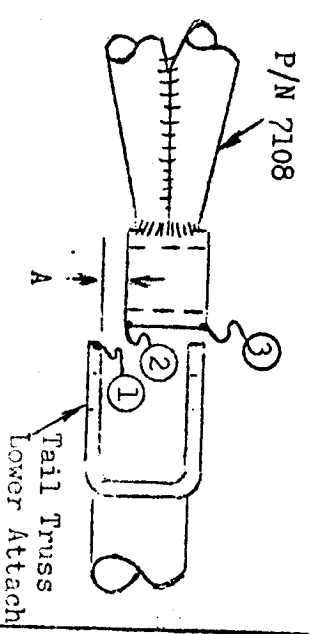
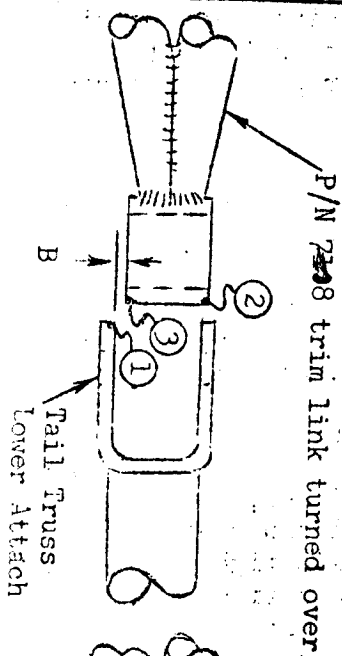
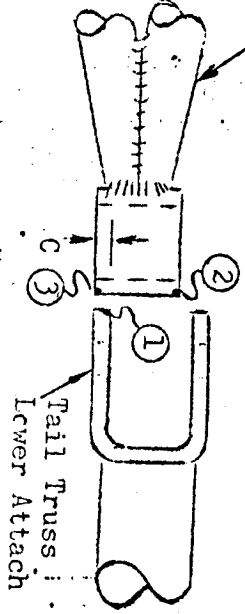

Figure 2
Figure 3
Figure 4
6. Due to the fact that P/N 3471 brackets are much stiffer than P/N 3009 brackets, the following must be accomplished. This must be done only after Item 5 has been completed. Before attaching tail truss at bottom point, measure and record misalignment between truss fitting and P/N 7108 trim link. This first measurement between Point 1 and Point 2 is referred to as Dimension A (See Figure 2). The maximum allowable misalignment is 1/32 of an inch. If the misalignment (Dimension A) is more than 1/32 of an inch, DO NOT attempt to mate parts at lower attachment, but do the following: Turn P/N 7108 trim link over at its point of attachment to P/N 7107 and again measure and record misalignment. This second measurement between Point 1 and Point 3 is referred to as Dimension B or C depending on the relationship between parts (See Figures 3 and 4). Be sure to make both measurements on the same side of the airplane and always measure from the outside of trim link to the inner edge (Point 1) of tail truss fitting. If the misalignment (Dimension B or C) is still more than 1/32 of an inch, DO NOT attempt to mate parts, but send a collect telegram to Spare Parts Department, Mooney Aircraft, Inc., Kerrville, Texas, with the following information:
Second measurement for misalignment of P/N 7108 & tail truss lower attach fitting, made after P/N 7108 is turned. If relationship between parts is as shown in Figure 3 then second measurement is called Dimension B, and if as shown in Figure 4 measurement is called Dimension C.